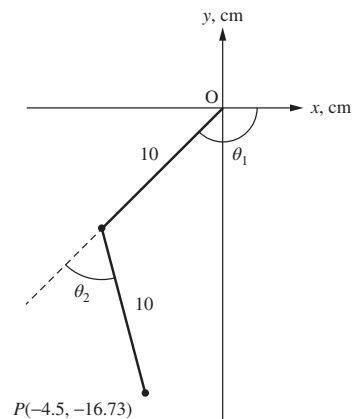

Figure P3.24 A two-link planar robot for problem P3-24.
- 3-24.** Consider a two-link planar robot with $l_1 = l_2 = 10$ cm and oriented in the elbow-up position as shown in Fig. P3.24. If the tip of the robot is located at the point $P(x, y) = (-4.5, -16.73)$, determine the values of θ_1 and θ_2 .